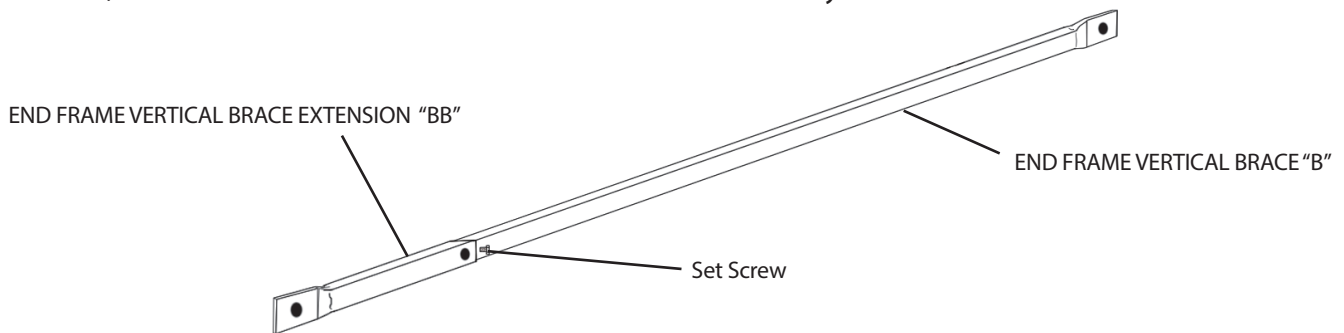

Figure 25.1
STEP 17: Locate the (2) END FRAME VERTICAL BRACES “B” and the (2) END FRAME VERTICAL BRACE EXTENSIONS “BB”. Slide the END FRAME VERTICAL BRACES “B” into the corresponding opening in the END FRAME VERTICAL BRACE EXTENSIONS “BB” as illustrated in Figure 25.1, and fasten with the hardware (1) 1.25” Bolt and (1) Nut. This will create part COMPLETED VERTICAL BRACE , as it will be referred to in the remainder of the assembly manual.